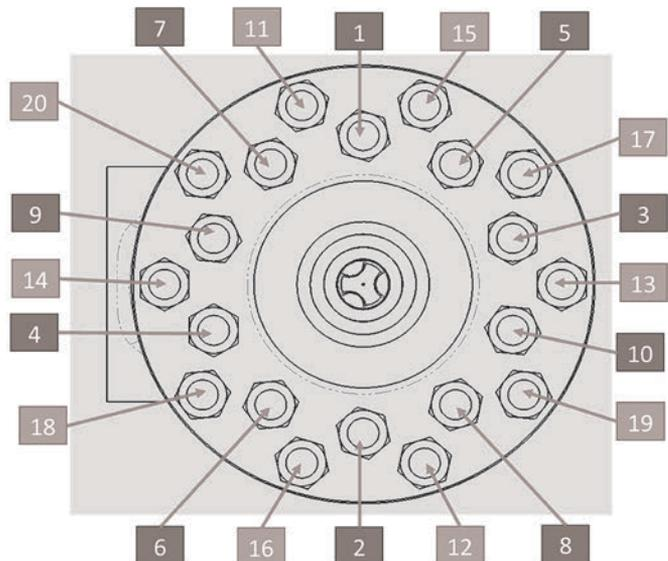

Figure 4 - Torque Sequence Single Bolting Circle 20 Bolts
1. Begin with the internal bolt pattern and torque the nuts in the order indicated by the Figure 4 or 5 depending on bolt quantity, and torque them in successive, uniform and progressive levels using a calibrated torque wrench. When the torque values in Table 1 are reached, confirm that the Lower Flange (B010) face is in metal to metal contact with the Valve Body (B001) face.
2. Follow with the external bolt pattern and torque the nuts in the order indicated by the Figure 4 or 5 depending on bolt quantity, and torque them in successive, uniform and progressive levels. When the torque values in Table 1 are reached, confirm that the Lower Flange (B010) face is in metal to metal contact with the Valve Body (B001) face.